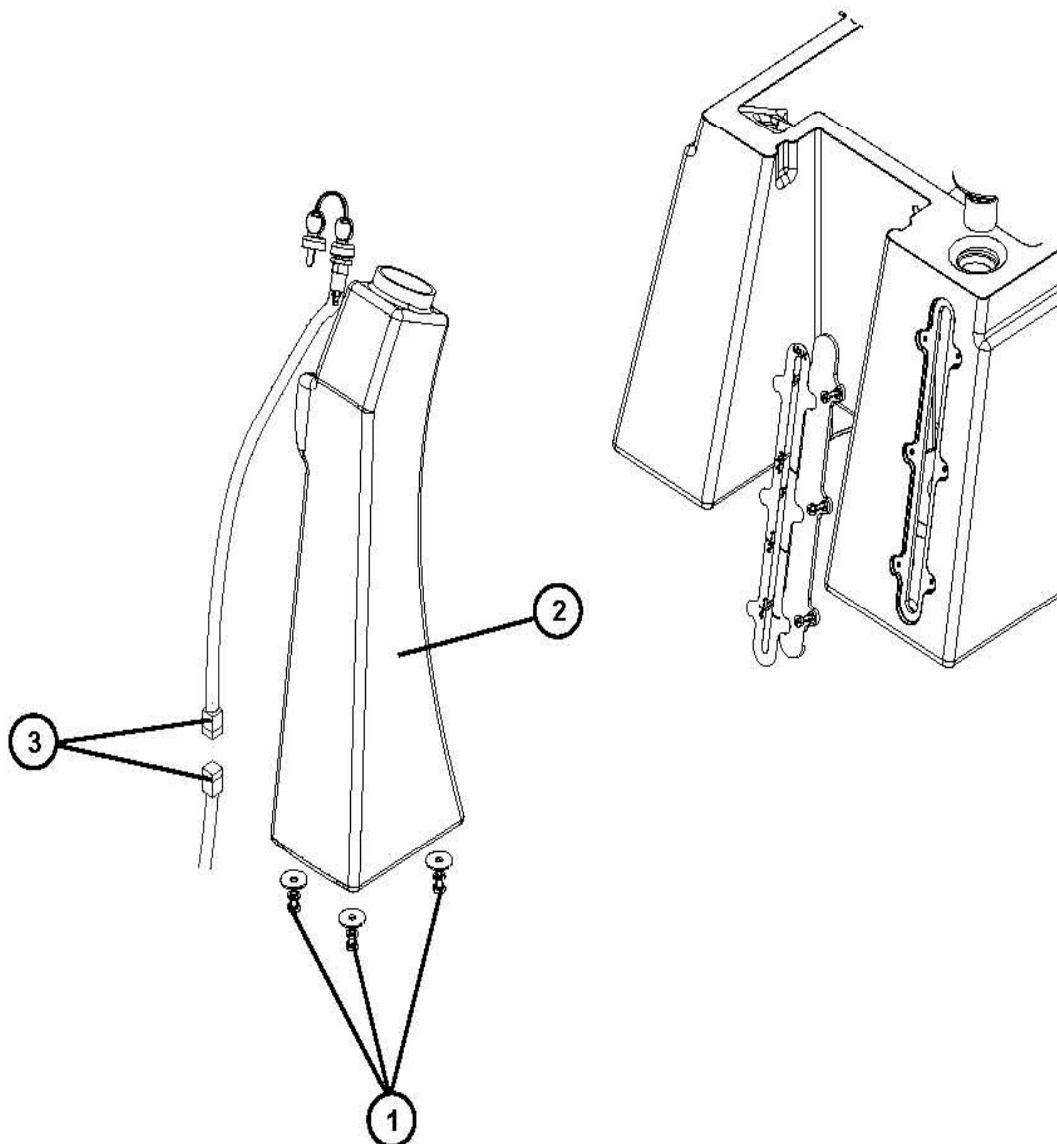

Figure 10-4
2. Unscrew the screws (1, **Figure 10-4**) and gently lift the steering column (2).
3. Disconnect the electrical connector (3) of the ignition key, and then remove The steering column (2).